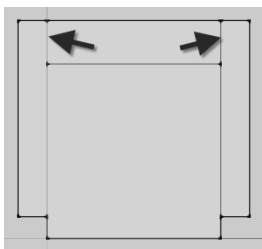

FIGURE 4-2.10
30. Use the **Move** tool to move the rectangles into position (Figure 4-2.10).
SketchUp does not allow overlapping lines. Therefore, when you moved the rectangles into place the lines were merged, with any endpoints remaining. This will allow you to delete the extra lines identified in Figure 4-2.10.
31. **Delete** the extra lines identified in Figure 4-2.10; select it and press the **Delete** key on the keyboard.